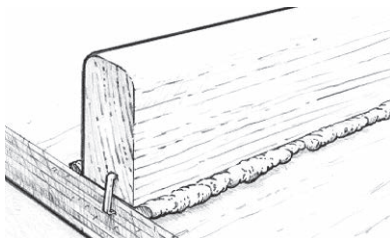

Figure 11 Clamp components in place before the epoxy gels.
3. **Clamp components.** Attach clamps as necessary to hold the components in place. Use just enough clamping pressure to squeeze a small amount of the epoxy mixture from the joint, indicating that the epoxy is making good contact with both mating surfaces (Figure 11). Avoid using too much clamping pressure, which can squeeze all of the epoxy mixture out of the joint.